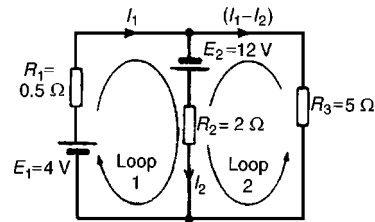

Figure 13.8
1. Currents, and their directions are shown labelled in Fig. 13.8 following Kirchhoff's current law. It is usual, although not essential, to follow conventional current flow with current flowing from the positive terminal of the source
2. The network is divided into two loops as shown in Fig. 13.8. Applying Kirchhoff's voltage law gives: